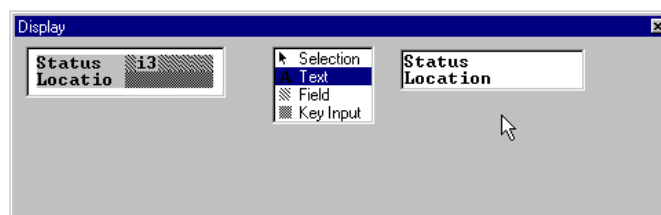

Figure 3-75 “Status” Handler Display - Location Corrected in Edit Box
63. To correct the display, type an “n” at the end of **Locatio** in the edit box (Figure 3-75).